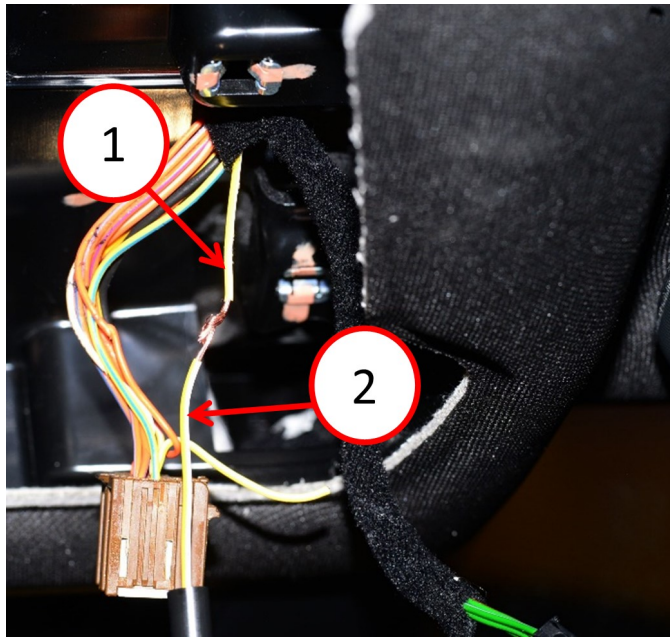

Fig. 4
8. Solder the jumper harness to the dome lamp wire harness (pin 6) yellow/white wire Fig. 4.